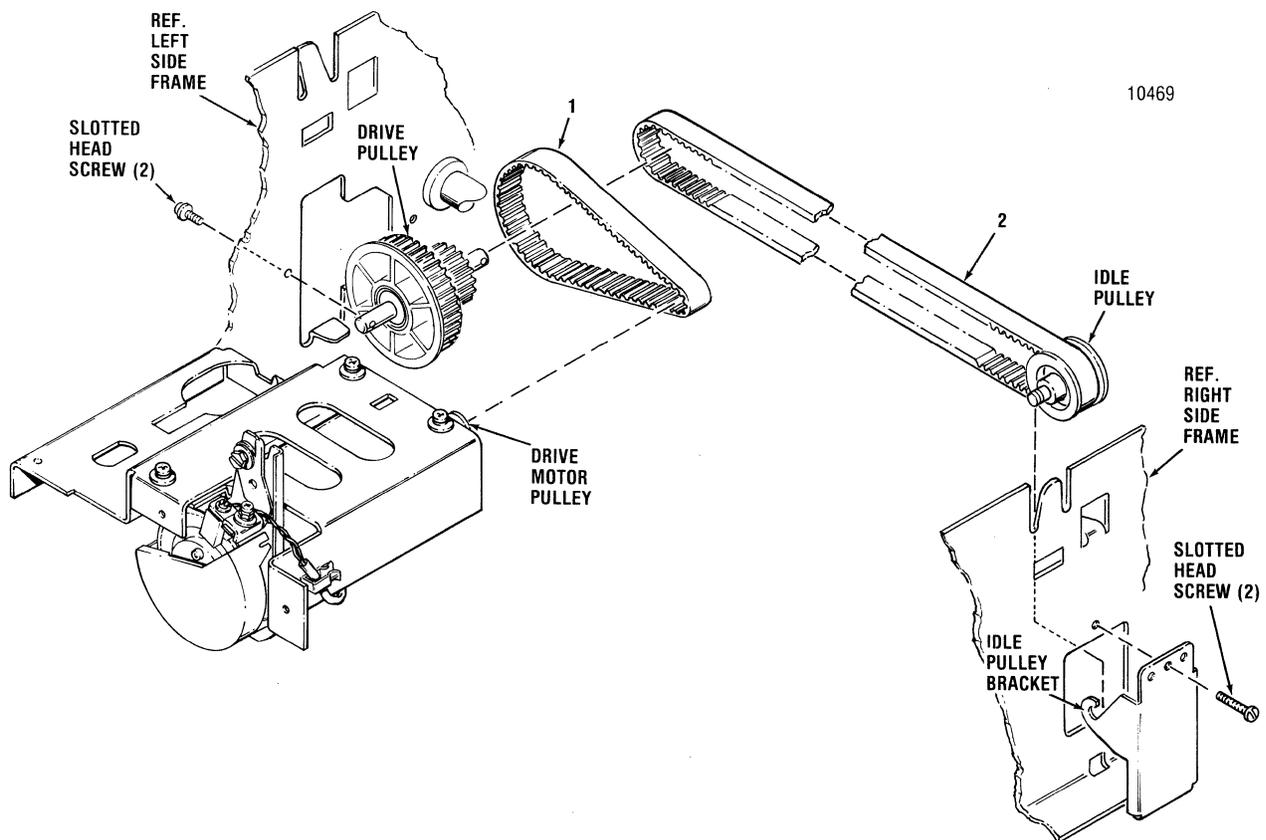

Figure 5-9 Removal/Replacement, Carriage Drive Motor Belt, Carriage Drive Belt
The carriage drive motor belt, item 1 of Figure 5-9, provides the drive from the carriage drive motor to the carriage drive belt, thus moving the carriage. The belt is removed using a flat blade screwdriver. To remove the belt, refer to Figure 5-9 and perform the following steps:
4. Remove the carriage drive belt (2) from the drive pulley.
5. Remove the carriage drive motor belt (1) from the drive pulley.
The carriage drive belt, item 2 of Figure 5-9, attaches to the carriage and is driven by the carriage drive motor belt. The belt is removed using a flat
blade screwdriver. To remove the belt, refer to Figure 5-9 and perform the following steps: